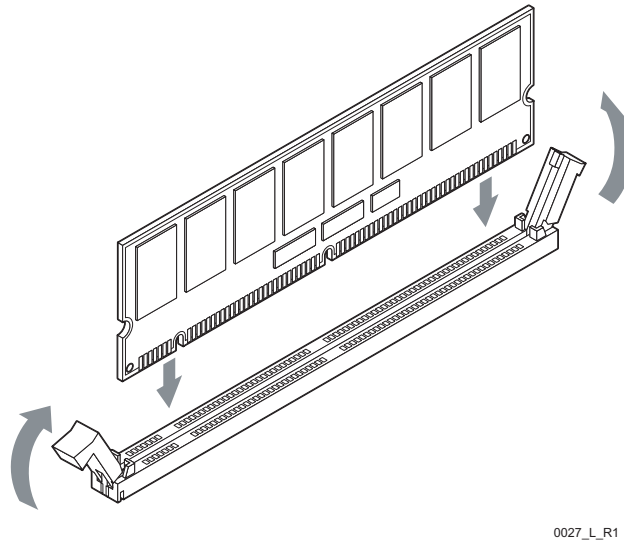

Figure 14-4. Inserting Replacement Data Cache Into the DIMM slot
- 2 Insert the replacement data cache DIMM into the slot that held the failed DIMM (Figure 14-4).